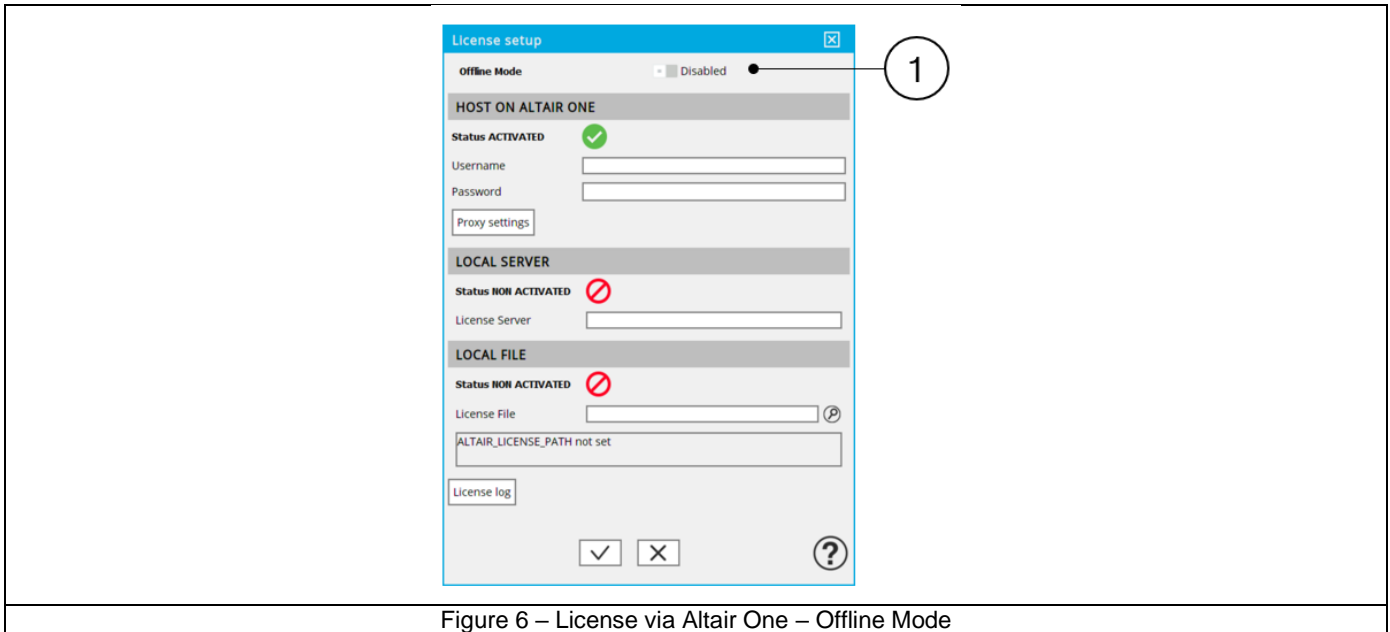

Figure 6 – License via Altair One – Offline Mode
- 3) Click the Offline Mode slider (Mark 1 Figure 6 – License via Altair One – Offline Mode).